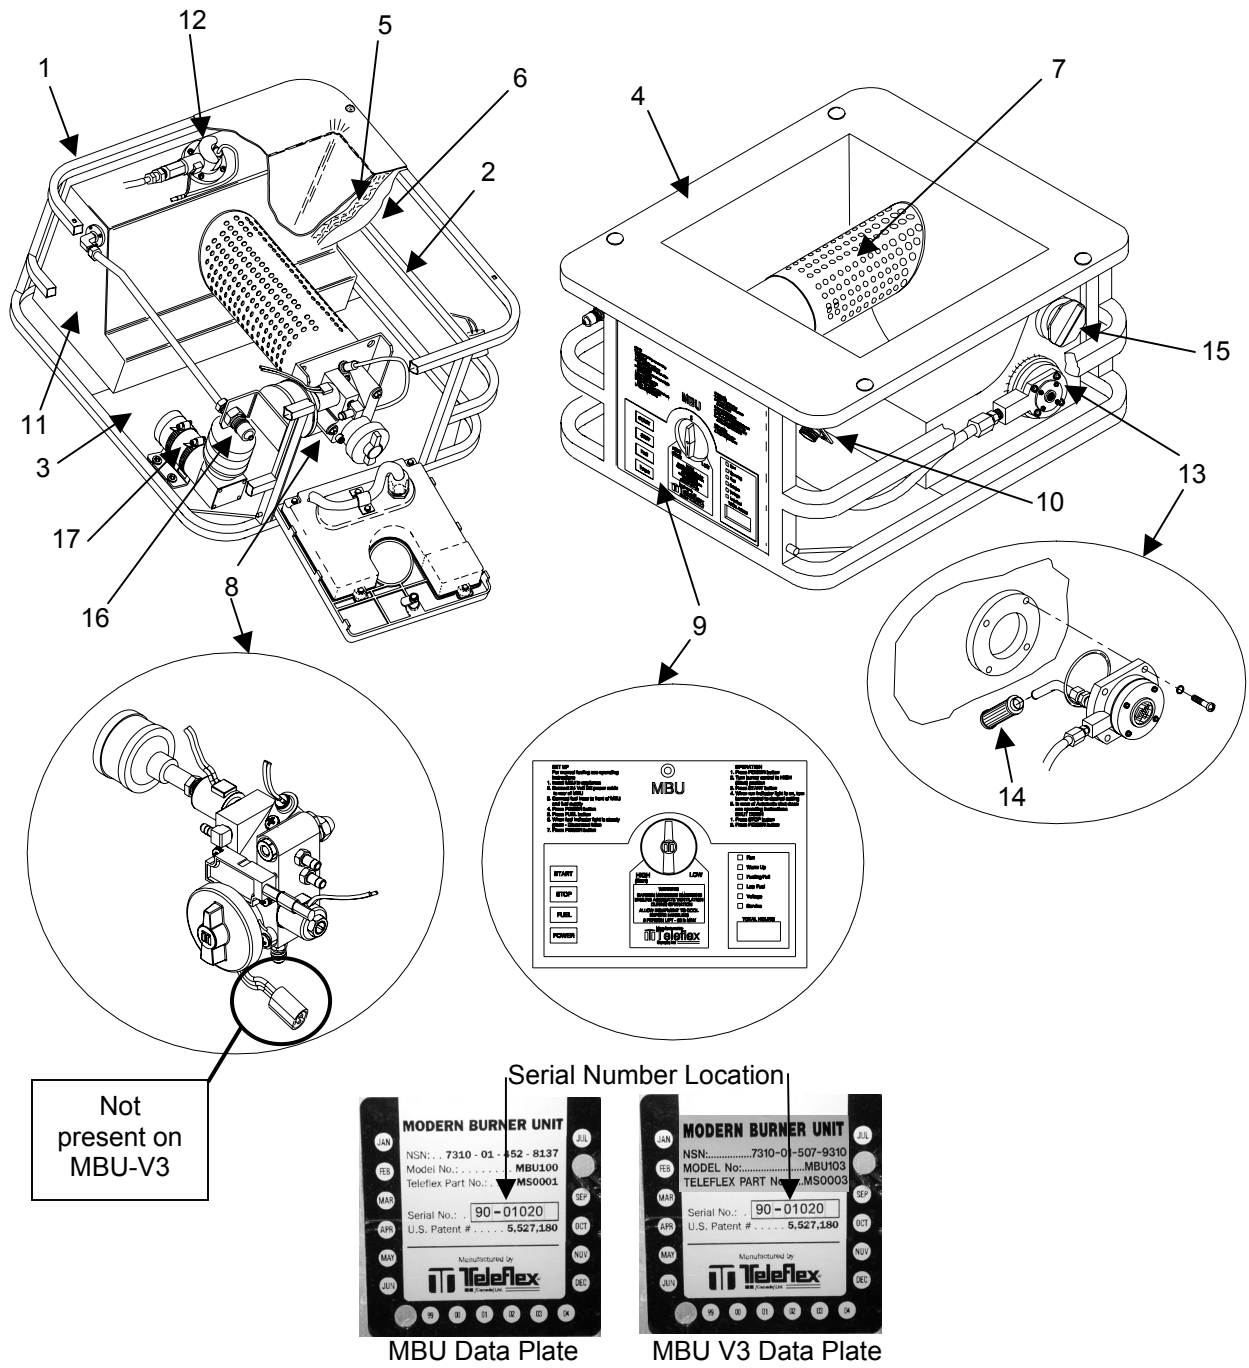

Figure 1. Modern Burner Unit Location and Description of Major Components
The $\frac{3}{4}$ -inch square aluminum stock frame (**figure 1, item 1**) includes lifting handles (**figure 1, item 2**), and base plate (**figure 1, item 3**).
The stainless steel reflective heat shield (**figure 1, item 4**) directs radiant heat upward, secures the insulation (**figure 1, item 5**) in the burner well (**figure 1, item 6**), and contains food spills during MBU operation. The insulation protects components of the MBU from combustion heat.
The infrared burner assembly (**figure 1, item 7**) projects through the burner well (**figure 1, item 6**), the high temperature insulation (**figure 1, item 5**) and the reflective heat shield (**figure 1, item 4**).
Fuel Delivery Block Assembly. – The Fuel Delivery Block assembly (**figure 1, item 8**) controls the fuel/air mixture that is provided to the burner tube assembly.
The hinged control panel (**figure 1, item 9**) opens for access to subassemblies. The control panel includes four pushbutton controls, six indicators, and an hour meter.
The power receptacle (**figure 1, item 10**) is mounted at an angle to facilitate easy connection of the 24VDC cable.
The two gallon fuel tank (**figure 1, item 11**) is welded to the frame (**figure 1, item 1**) and contains fuel for combustion. A vent valve/level assembly (**figure 1, item 12**) monitors fuel level. The fuel regulator (**figure 1, item 13**) maintains zero pressure fuel for delivery to the fuel nozzle during operation and contains a replaceable fuel filter (**figure 1, item 14**). The fuel tank has a threaded plug (**figure 1, item 15**) for manually filling the fuel tank when the MBU is removed from the appliance.
The Fuel Supply QD Nipple (**figure 1, item 16**) provides the connection for the fuel line, allowing the flow of fuel into and out of the tank. It is also used when draining the tank of fuel.
The air compressor (**figure 1, item 17**), draws air through the air intake filter, which is part of the fuel delivery block assembly (**figure 1, item 8**). The compressor also draws fuel through the QD nipple (**figure 1, item 16**) during refueling.